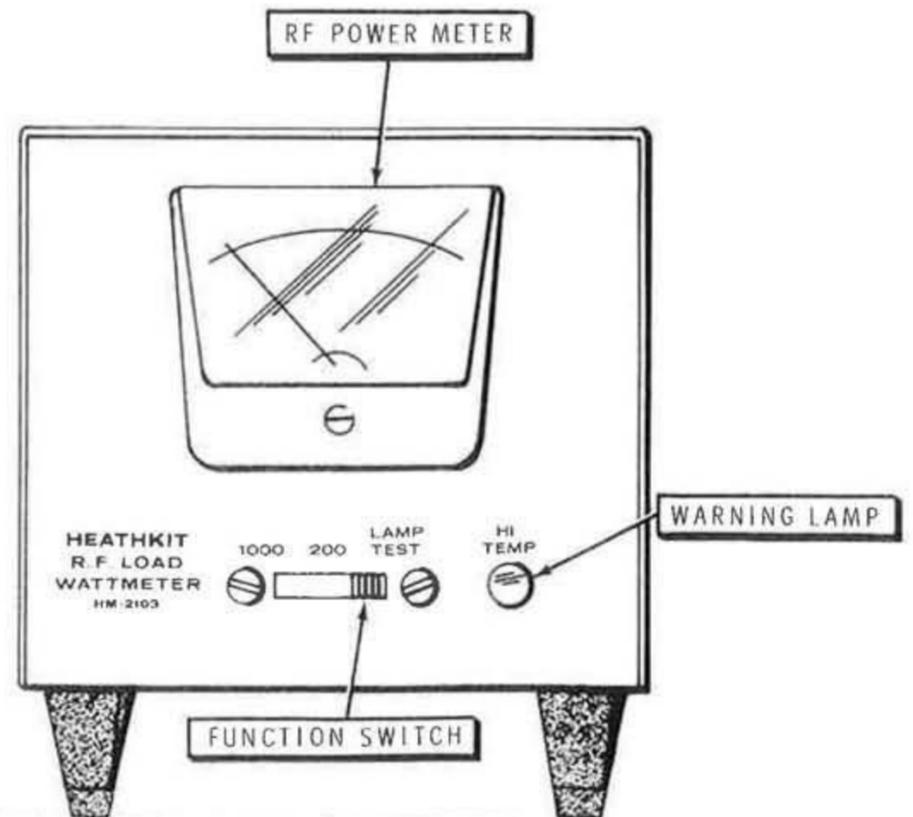

Figure 3
- ( ) Set the FUNCTION switch to LAMP TEST (see Figure 3). The lamp should light, which indicates that circuit is working correctly. Leave the switch in this position for the following steps.